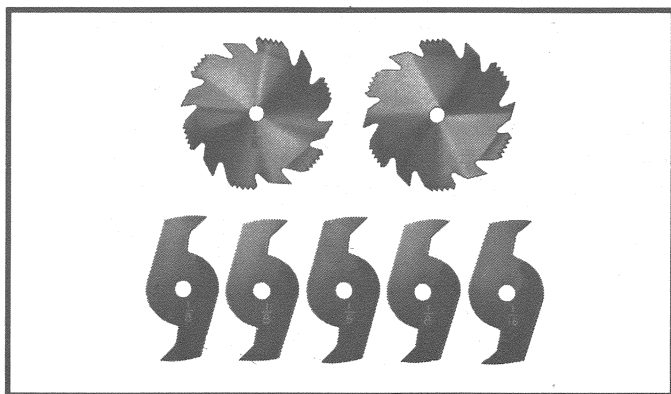
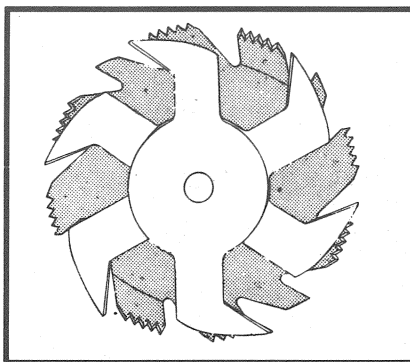
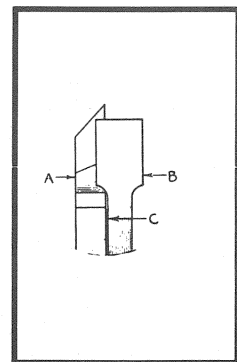

Fig. 54
Fig. 55
Fig. 56
Dadoing is cutting a rabbet or wide groove into the work. Most dado head sets are made up of two outside saws and four or five inside cutters, as shown in Fig. 54. Various combinations of saws and cutters are used to cut grooves from 1/8" to 13/16" wide for use in shelving, making joints, tenoning, grooving, etc. The cutters are heavily swaged and must be arranged so that this heavy portion falls in the gullets of the outside saws, as shown in Fig. 55. The saw and cutter overlap is shown in Fig. 56, (A) being the outside saw, (B) an inside cutter, and (C) a paper washer or washers which can be used as needed to control the exact width of groove. A 1/4" groove is cut by using the two outside saws. The teeth of the saws should be positioned so that the raker on one saw is beside the cutting teeth on the other saw.
NOTE: DO NOT USE WOBBLE-TYPE DADO HEADS ON YOUR SAWBUCK. Use only production type, as shown in Fig. 54.